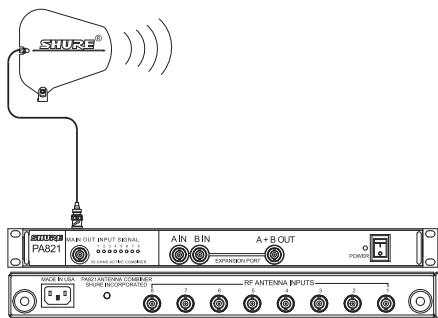

FIGURE 1
2. Attach an antenna to the **MAIN OUT** of PA821SWB. For wideband applications, use PA805SWB directional antenna (Figure 1).
NOTE: When the PA821SWB is powered on, the input signal indicators (1-8) on the front panel will illuminate if an active transmitter is connected to the corresponding input (1-8) on the back panel (Figure 1).